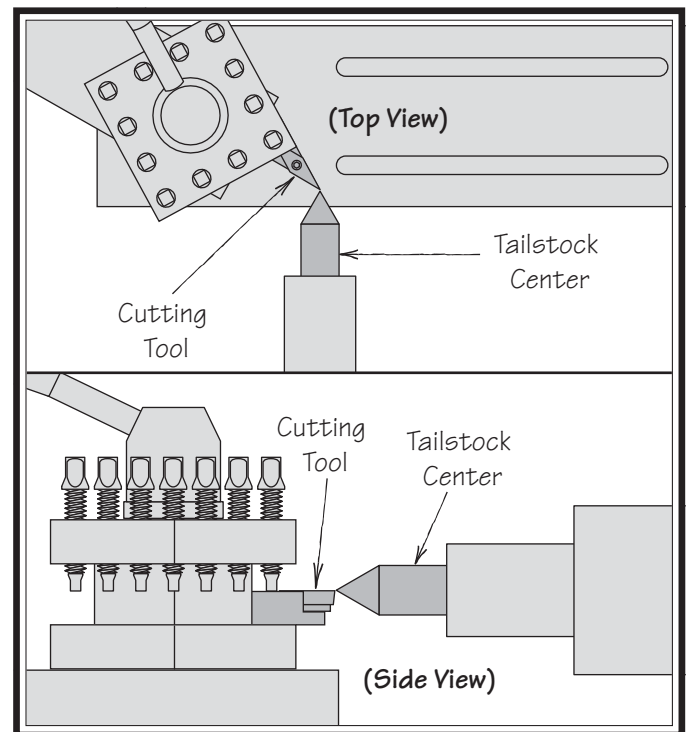

Figure 59. Cutting tool tip aligned with tailstock center.
4. Adjust the height of the cutting tool so that the tool tip is aligned vertically and horizontally with the center tip, as shown in **Figure 59**.